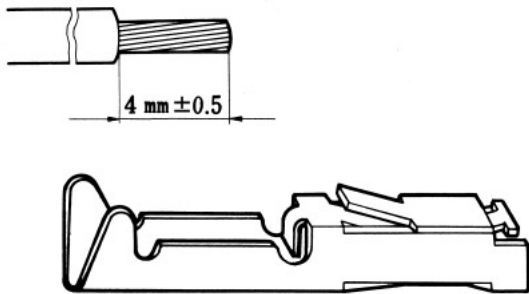
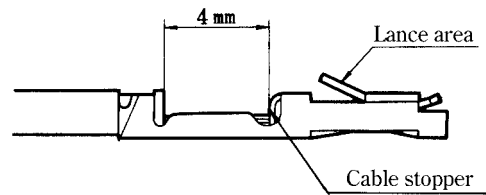
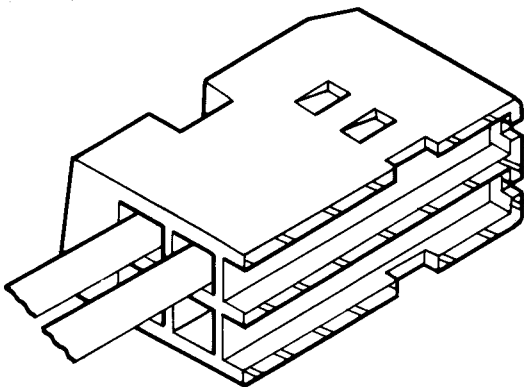

Figure 1
Figure 2
Figure 3
- (1) As shown in Figure 1, peel the applicable cable (AWG#20 to #26) jacket, and connect it using crimping jig HIF3-TA2022HC, HIF3-TA2226HC, or HIF3-TA2426HC. In this case, insert the cable so as to hit the contact cable stripper position as shown Figure 2.
- (2) After connection as shown Figure 2, check the contact direction, and insert the contact as shown Figures 3 and 4. Slightly pull the cable, and check whether the contact lance position is firmly fixed to the insulation case, as shown in the area (A).